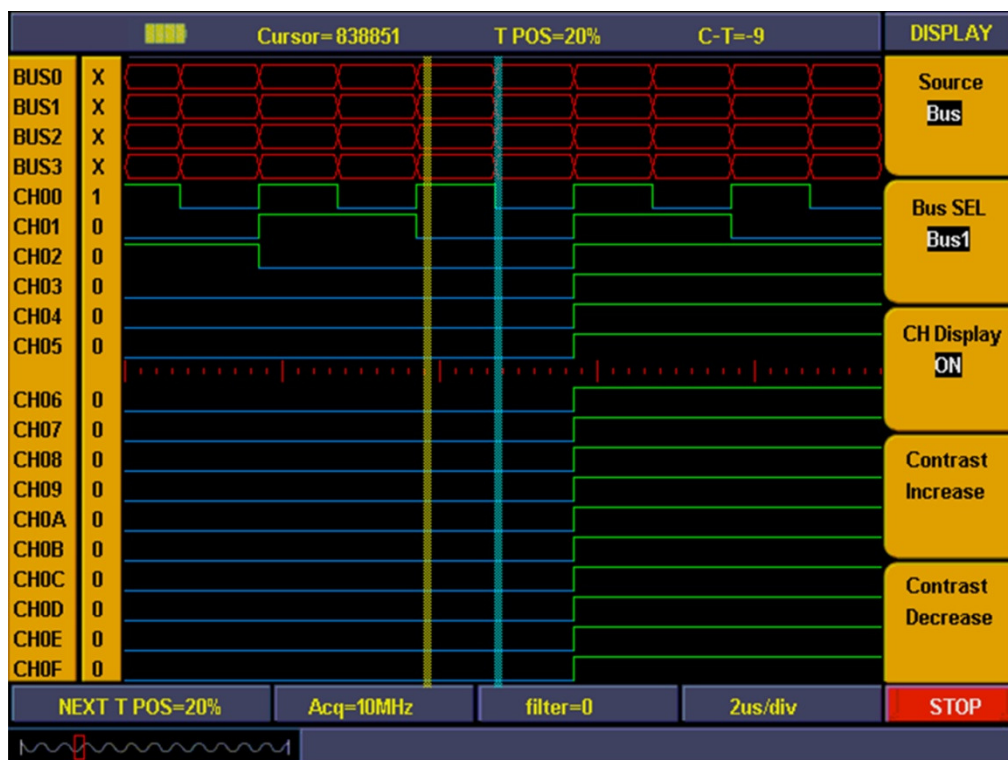

Fig. 13
4. Press "**F3**" and set the signal sources as "**ON**". Repeat operation of steps 3.4 and set CH01, CH02 as "**ON**" and CH03-CH0F as "**OFF**". Refer to Fig. 13.